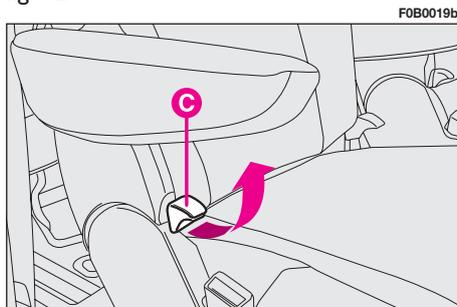
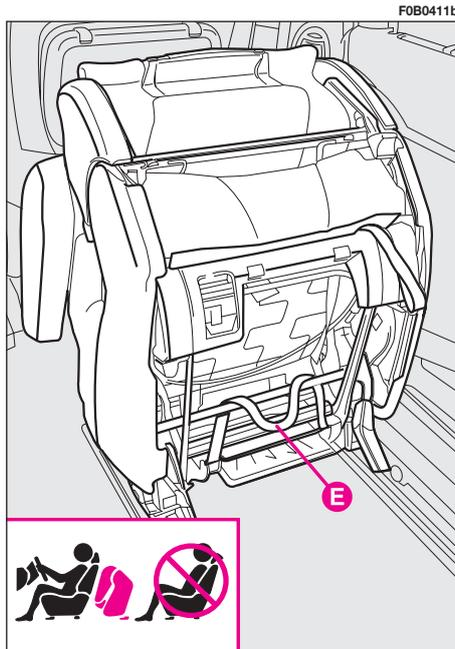

fig. 33
fig. 36
TO ADJUST THE RECLINING SEAT BACK fig. 33
To use the side seat back as a supporting plane (“table” position), operate release lever **C**-fig. 33 and guide the seat to the cushion.
Operate release lever **C-fig. 33** and guide the seat back until the “table” position is reached; then turn the tipped seat again until the “wallet” position illustrated in **fig. 36** is reached.
When the second row seat is tipped in “wallet” position, it is not possible to transport passengers on the third row seats, as illustrated on label fig. 36 placed on the seats themselves. This is a precaution to avoid any risk of contact with the articulation mechanisms of the seat itself.
To get at the rear seats (third row), lift lever **C-fig. 33** from the outside and tip the whole seat forward.
– operate release lever **C**-fig. 33 and guide the seat back until the “table” position is reached; turn the tipped seat again until the “wallet” position is reached fig. 36;